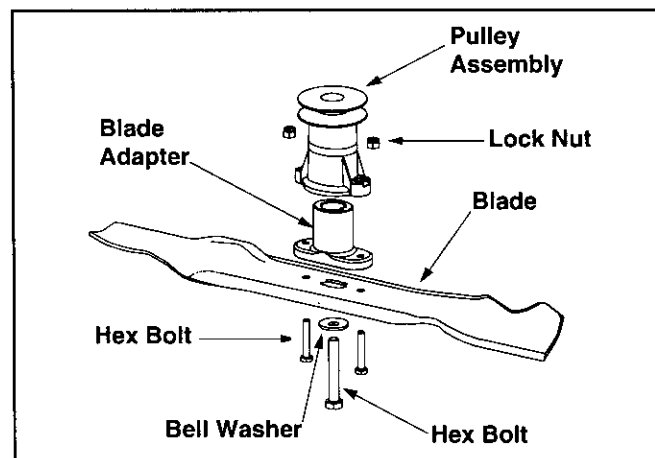

Figure 13
- Remove the bolt and bell washer which hold the blade-pulley assembly to the engine crankshaft. See Figure 13. Remove the assembly from the crankshaft.